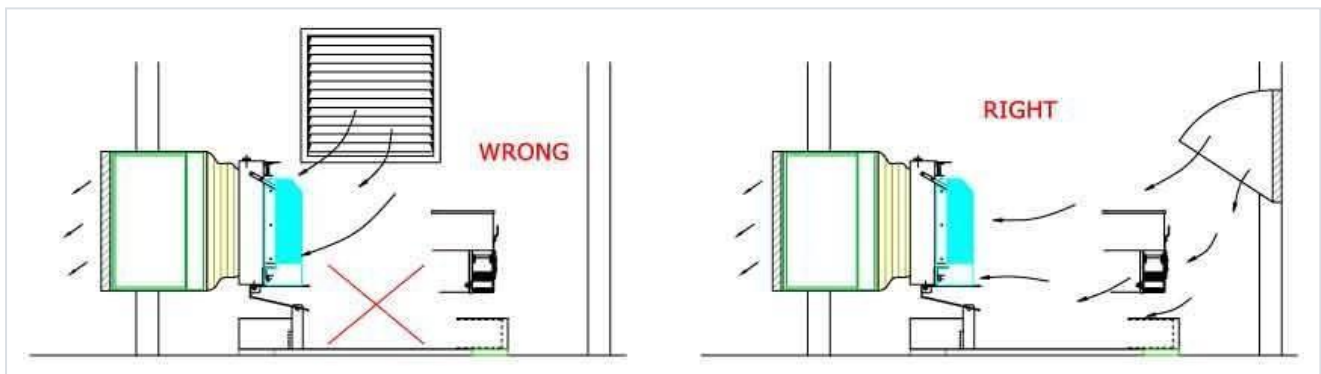

FIG. 6 (wrong) and FIG. 7 (right) — air inlet arrangements.
- FIG. 6 shows an air inlet opening positioned high in the wall and at right angles to the fan airflow. This is incorrect and should not be considered. With this arrangement, the cooling air will bypass the AC alternator and the engine air intake filter, resulting in increased operating temperatures unless the load is reduced.